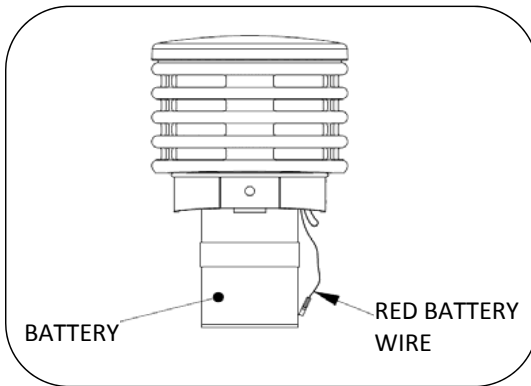

FIG.2 - BATTERY CONNECTION
3. Connect red battery wire to red (positive) battery terminal, see Fig. 2.